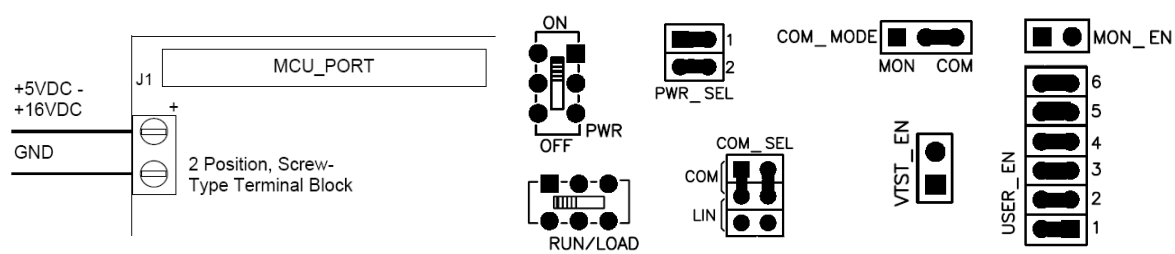

Figure 1. DEMO908GZ60 Default Settings
- Reinstall the jumpers to the default position. Refer to figure 1.